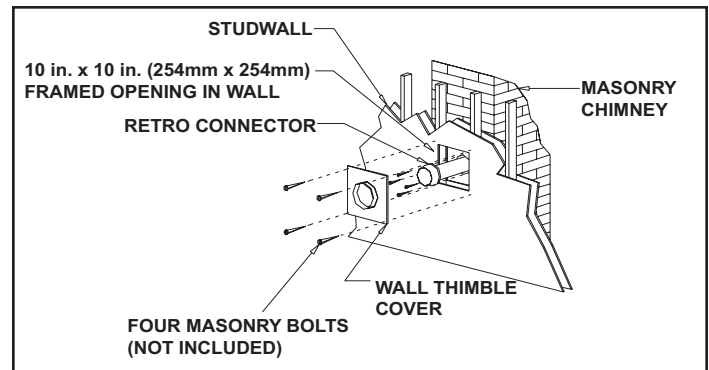
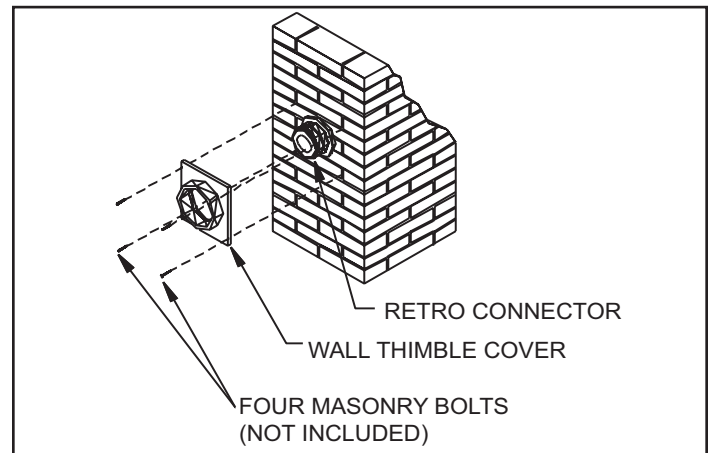

Figure 5.25
Figure 5.30
Step 2 - Once the center point of the penetration has been determined, cut a 6 in. (152mm) diameter hole in the masonry. If the hole is too large, the retro connector might not mount properly; if the hole is too small, the appliance might starve for intake air. If there is a frame wall in front of the masonry wall, cut and frame a 10 in. (254mm) square opening in the wall (centered around the 6 in. (152mm) masonry opening). If there is sheet rock only (no studs) in front of the masonry the 10 in. (254mm) opening is still needed, but does not need to be framed. If the hole is framed a wall thimble is required. This allows the retro connector to mount directly on the masonry and provide the correct clearances to combustibles, Figure 5.25.
Step 10 - Slide wall thimble cover over retro connector and secure with masonry bolts (Figure 5.30). If you have a framed wall in front of the masonry, use wood screws to mount wall thimble cover to framed wall, over retro connector and 10 in. (254mm) square framed opening (Figure 5.25). If needed, add a section of direct vent pipe to the retro connector in order to extend through the opening in the wall thimble cover.